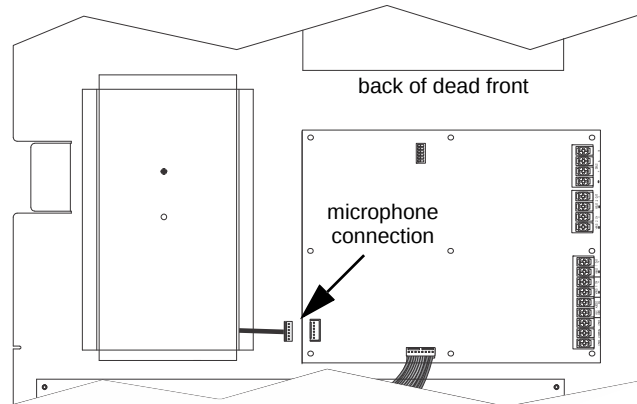

Figure 4.56 Microphone Cord Inserted Through Dead Front Panel Hole
2. Insert microphone cord through hole at the bottom of the dead front panel. See Figure 4.56.
- 4. Unplug the microphone from the microphone connector. See Figure 4.56.